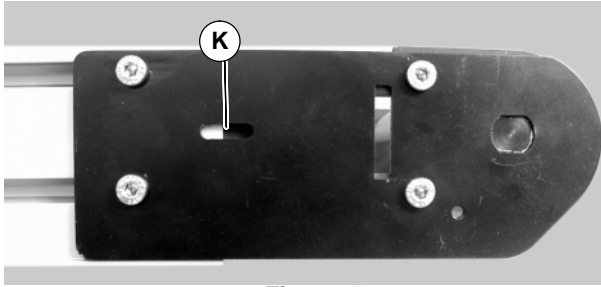

Figure 10
10. Extend head plate assembly until proper tension in the belt is achieved. If proper tensioning can not be obtained before the belt life indicator is all black (K of Figure 10) the belt must be replaced.